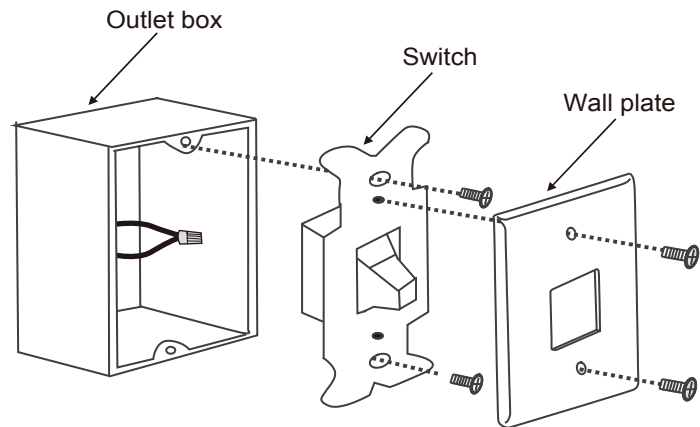

Fig. 28
Step 1. Remove the existing wall plate and the old switch from the wall outlet box. Wire nut the BLACK leads (hot) together and push back inside the outlet box. (Fig. 28)